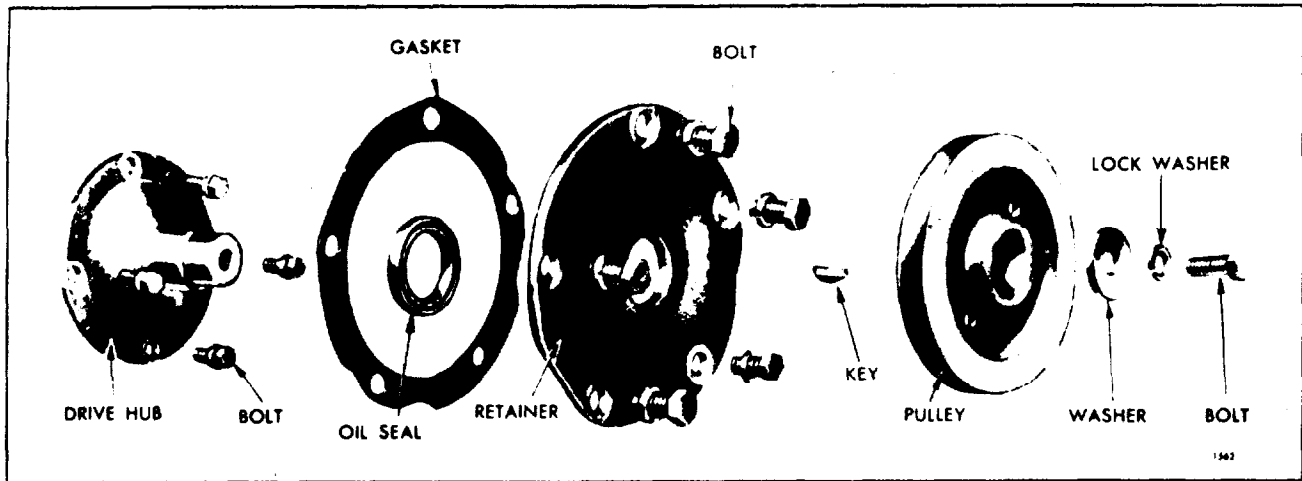
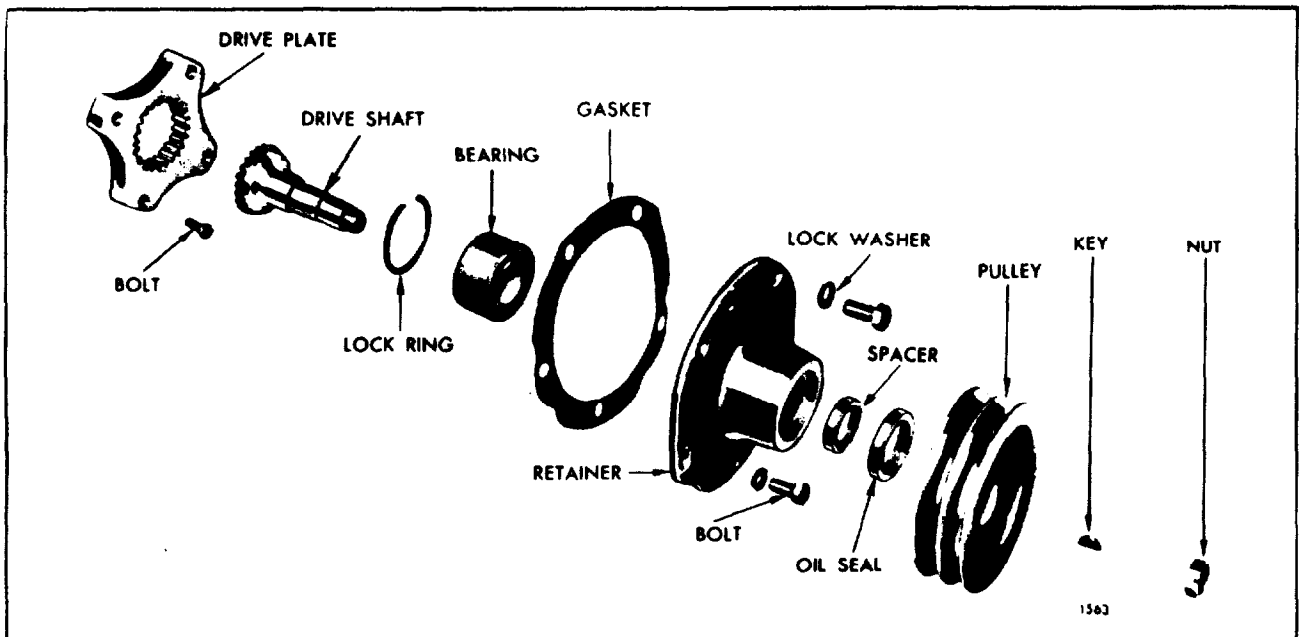
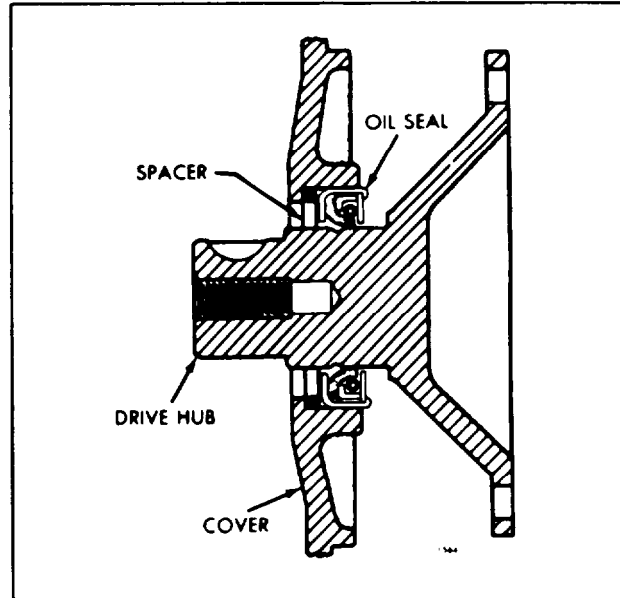

Fig. 5 Components of Accessory Drive for Belt Driven Accessory (Drive Hub Type)
Fig. 6 . Components of Accessory Drive for Belt Driven Accessory (Drive Plate Type)
Fig. 8 Location of Oil Seal Spacer
Belt driven accessories, such as battery-charging generators or air compressors, are driven off the camshaft or balance shaft gears by a drive hub and pulley (Fig. 5), or a spacer, accessory drive plate, accessory drive shaft, accessory drive retainer assembly and pulley (Fig. 6).
In the first arrangement, illustrated in Fig. 5, the drive hub is bolted to the camshaft or balance shaft gear. The oil seal retainer is bolted to the flywheel housing and the pulley is keyed to the drive hub shaft which extends through the oil seal retainer.
In the second arrangement, shown in Fig. 6, the spacer and accessory drive plate are bolted to the camshaft or balance shaft gear. The accessory drive shaft is splined to the drive plate at one end and supported by a bearing in the accessory drive retainer at the other end. The accessory drive retainer, which also incorporates an oil seal, is bolted to the flywheel housing. The pulley is keyed to the drive shaft which extends through the drive retainer assembly.
3. Remove the bolt and washer (Fig. 5) or nut (Fig. 6) retaining the pulley on the drive shaft.
6. Remove the accessory drive shaft, drive plate and spacer (Fig. 6), or drive hub (Fig. 5) in a manner similar to that outlined in Step 5 under removal of the direct gear driven type accessory drive.
7. Remove the snap ring and ball bearing from the accessory drive shaft retainer assembly shown in Fig. 6.
Inspect the ball bearing used to support the accessory drive shaft shown in Fig. 6. Wash the bearing in clean fuel oil and dry it with compressed air. *Shielded bearings must not be washed*; dirt may be washed in and the cleaning fluid could not be entirely removed
Inspect the accessory drive hub, shown in Fig. 5, for grooving at the area of contact with the lip of the oil seal. If the hub is grooved to a point where the effectiveness of the oil seal is lost, a ring type oil seal spacer is available which serves to reposition the seal, thus providing a new sealing surface for the lip of the seal (Fig. 8).
4. If the accessory drive shown in Figs. 6 or 7 is used, assemble as follows:
5. Assemble the accessory drive shown in Fig. 5 as follows: